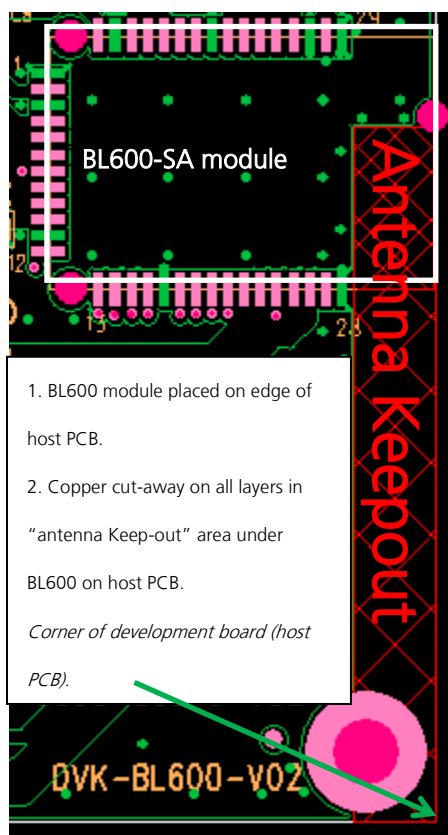

Figure 10: Antenna keep-out area (shown in red) used on the BL600 development board for BL600-SA module.
- The BL600 development board has the BL600-SA module on the edge of the board (not in the corner). The antenna keep-out area is defined by the BL600 development board which was used for module development and antenna performance evaluation is shown in Figure 10, where the antenna keep-out area is ~4.2 mm wide, 34.2 mm long; with PCB dielectric (no copper) height 1.539mm sitting under the BL600-SA antenna.
- The antenna-keep-out defined in the section **PCB land pattern and antenna keep-out area for BL600-SA** is for case when BL600-SA is placed in the corner of host PCB. When BL600-SA cannot be placed in corner of host PCB, then MUST place on the edge of the host PCB then cut-away copper (on all layers of host PCB) from the corner to the location of the BL600-SA antenna. For example Figure 10 shows what was done on the BL600 development board.
- Follow the 50-Ohms trace design used on the BL600 development board (PCB stack-up in Figure10). If this PCB-stack-up is not practical on customer design then design 50-Ohms for differing PCB stack-up.
4. BL600 development board has BL600-SA placed on the edge of the PCB board (and not in corner) for that the Antenna keep out area is extended down to the corner of the development board, see section PCB Layout on Host PCB for BL600-SA, Figure10. This was used for module development and antenna performance evaluation.